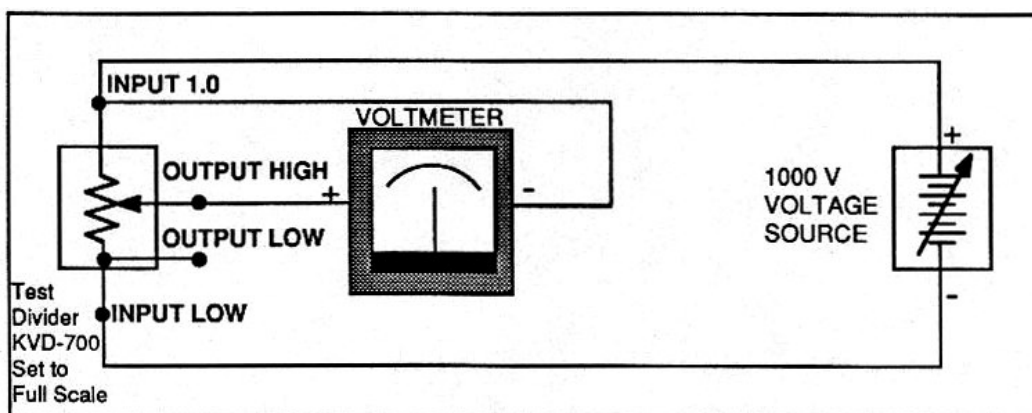

Figure 5.3. Setup Diagram for Measurement of Full Scale Correction
3. Modify the setup as shown in Figure 5.3. Set all dials to full scale (999 999 10) and measure the voltage between the **OUTPUT HIGH** and the **INPUT HIGH**. This is the full scale correction. Confirm that it is $< \pm 0.05$ ppm of input.